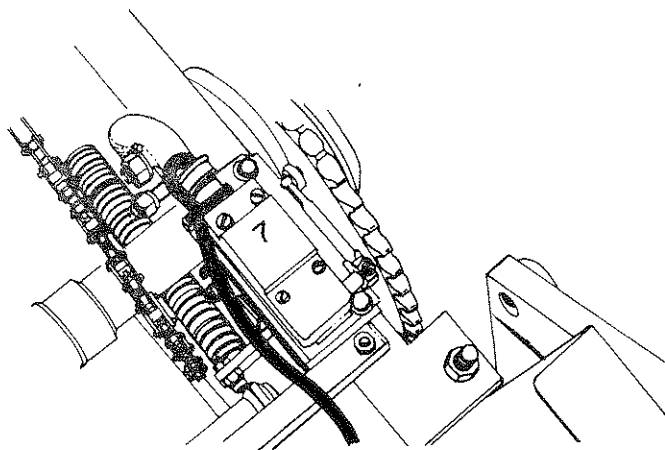

Fig. 46
1. To increase the duration of the non-reversing portion of the knotter cycle, lower the switch roller arm. To decrease this duration, raise the switch roller arm, see Fig. 46.